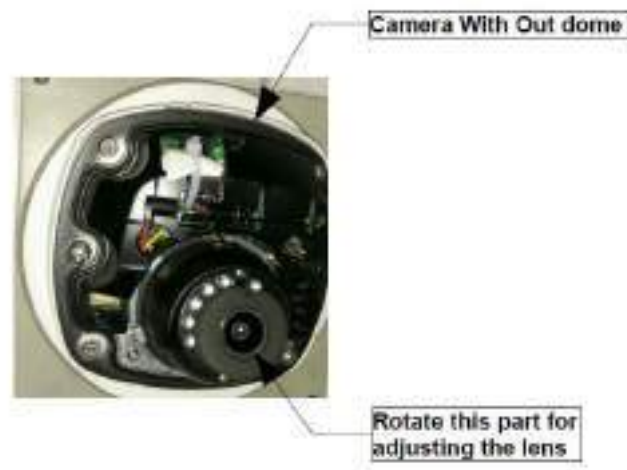

Fig2.4
- Remove the Camera from Roof as shown in below Fig.2.4